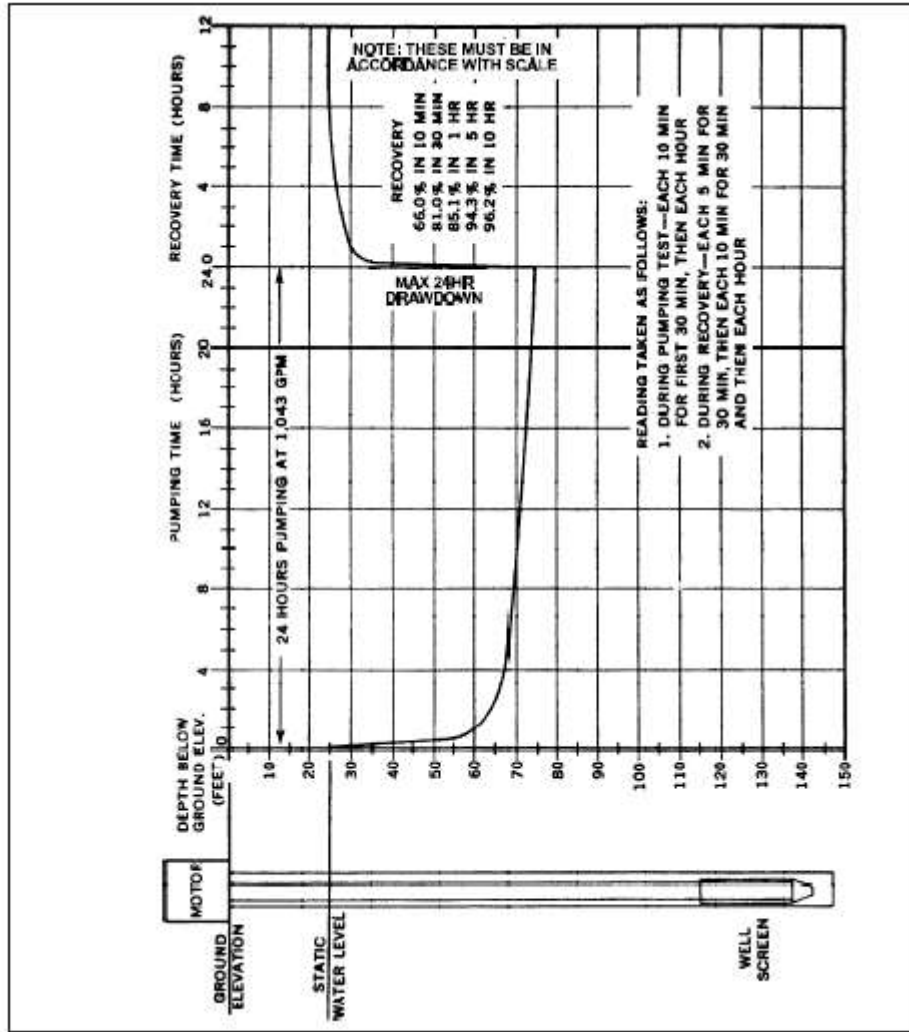

Figure 2
4.5.4 STARTING A NEW WELL PUMP. Table 9 lists startup procedures for vertical turbine well pumps. While plant operators will not generally be responsible for performing these startup procedures, they may be charged with overseeing the contractors performing installation and it is preferable that they are familiar with the startup tasks. Figure 2 shows the necessary water-level checks. If problems occur, refer to the troubleshooting checklist provided in Table 10.